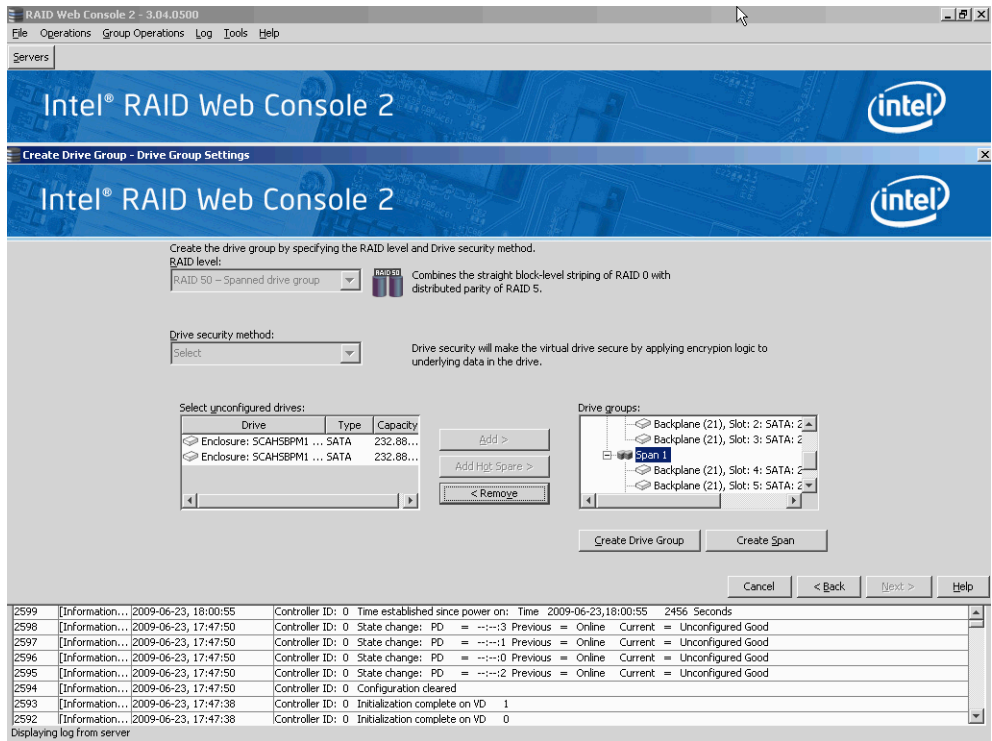

Figure 133. Span 0 and Span 1 of Drive Group 0
- e. The selected drives appear under **Span 1** below **Drive Group 0**, as shown in Figure 133